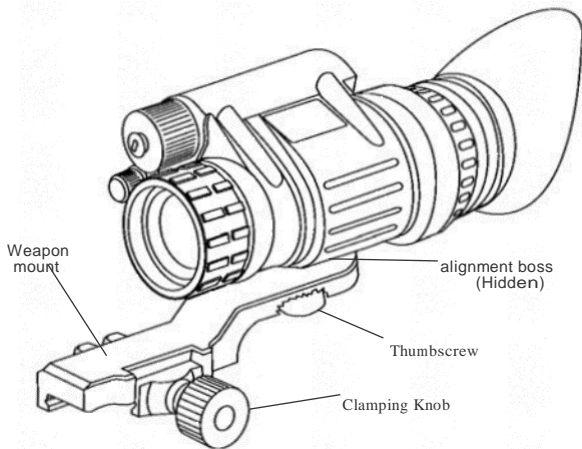

Figure 2.15. Weapon mount usage
(1) Orient the monocular and weapon mount as shown in Figure 2.15. Be sure to align the alignment boss on the weapon mount with the alignment groove in the monocular.
(2) Screw in the thumbscrew to secure the monocular to the weapon mount.
(3) Loosen the clamping knob on the weapon mount. position the weapon mount with the monocular onto the weapon's mounting rail. Tighten by turning the clamping knob.